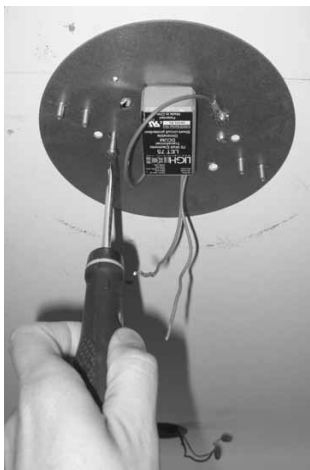

Figure 1
Step 3 Route supply wires from Junction box through hole in ceiling plate and mount ceiling plate to J-box using provided 8-32 screws. (Figure 1)